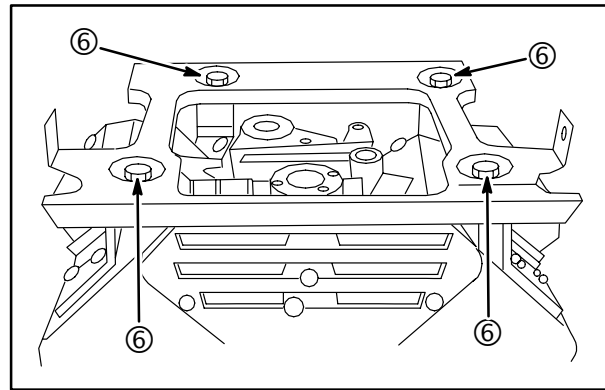

Fig. 2
7. Remove 4 screws (6) and the fuel tank base plate, **Fig. 2**.